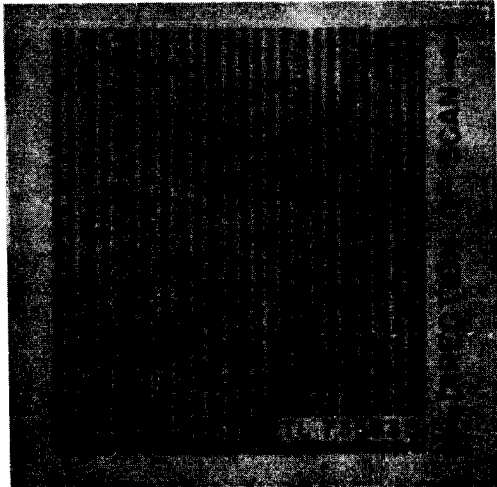

Figure 104. Enlarged example of line feed overlay and underlap.
*a. Line Feed Pattern.* Line feed pattern (fig. 104) may develop as a result of irregular longitudinal travel of the drum. If the drum does not advance uniformly at the rate of 1/96 inch per revolution, some of the photographically recorded scanning lines will overlay and others will underlap, thereby creating a blank space between the two lines. If the effect is great enough to cause noticeable deterioration in the received copy, corrective measures must be taken. The most common cause of trouble is the drum and lead-screw system. First check the arm of the drum-feed engaging mechanism to be sure it is riding on the guide rail. Install new half nuts as a corrective measure. Be sure that the snubber (N, fig. 122) is set firmly against the lens barrel. If this does not correct the trouble, make a test recording by substituting the drum of another machine. Be sure that the test recording is of the same type and is made by the same method as the one on which the line feed pattern proved troublesome. A final test should be made by using both the drum and the lead screw of another machine. If the line feed trouble remains, the trouble is probably in the motor or the optical system.